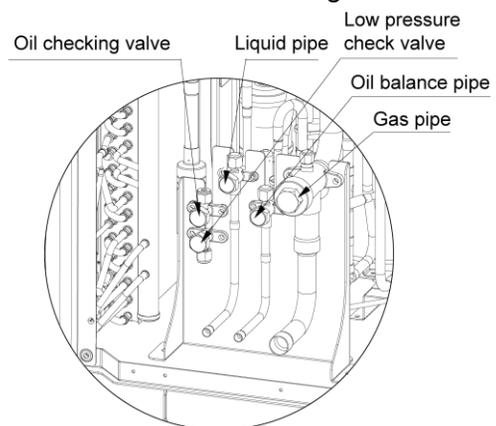

Fig. 4.4.2
- (2) When there are more than 2 outdoor units, air purging from the nozzle located on the oil balance valve. Confirm outdoor oil balance valves are closed. See Fig. 4.4.2.